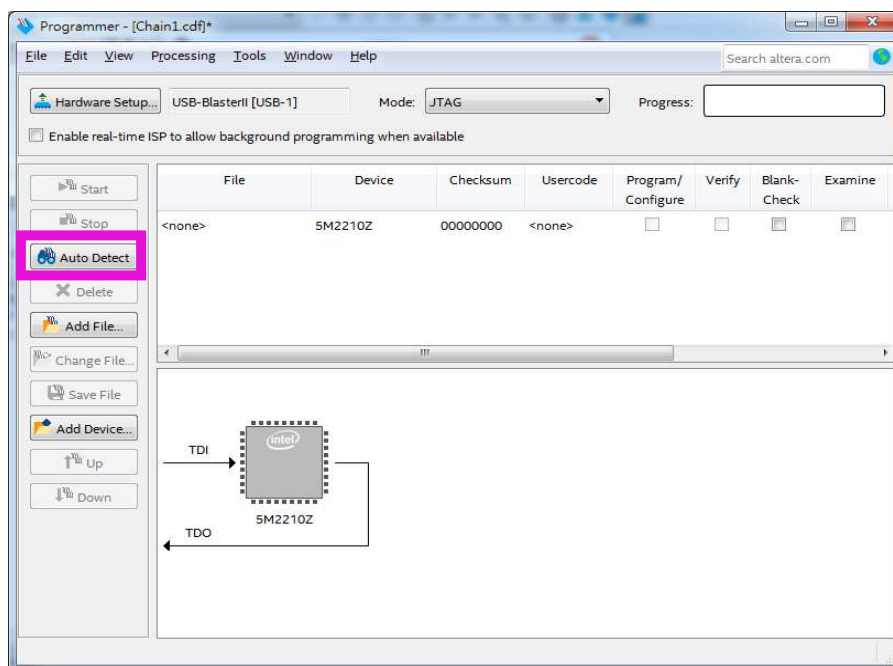

Figure 4-9 Quartus Programmer windows
- Connect the PC with A10SoC USB-Blaster II connector via USB cable. Then power on the A10SoC board, open the Quartus Programmer tool, click Auto Detect, see **Figure 4-9**.